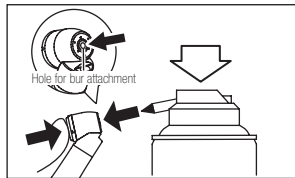

Fig. 9
- 2) Lubricate the chuck for 1 to 2 seconds directly through the bur insertion hole. (Fig. 9)